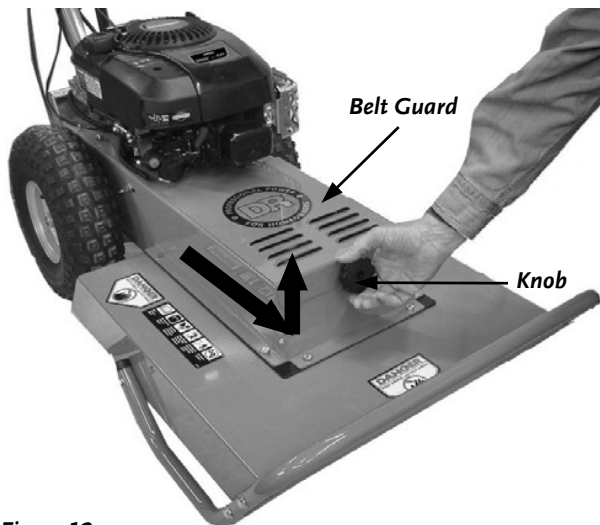

Figure 12
1. Remove the Belt Guard by unscrewing the black Knob and pull the Guard forward, lifting to remove it (**Figure 12**).